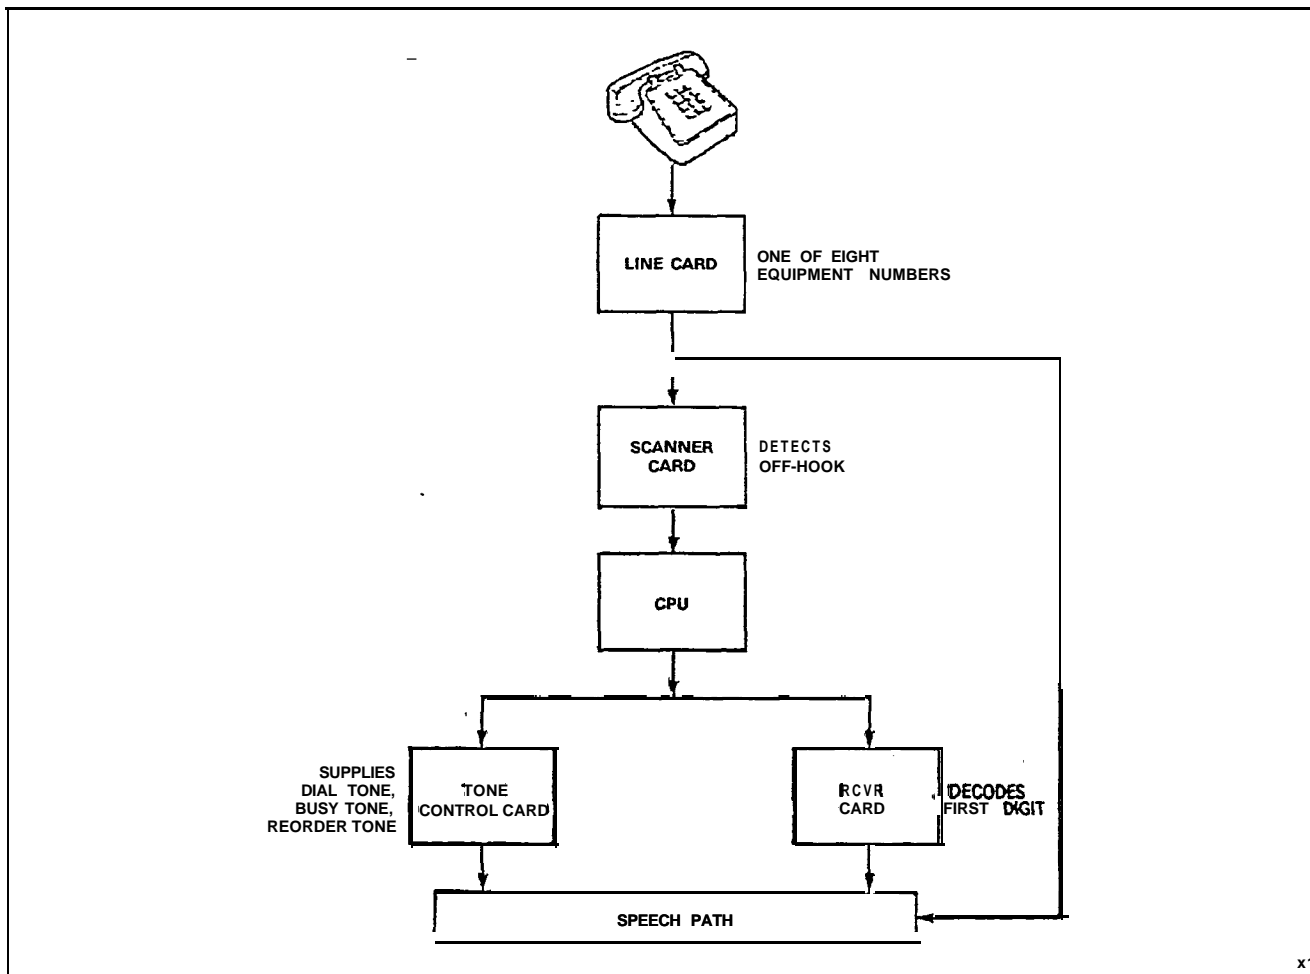

Figure 5-2 Select a Speech Path
5.01 Each extension is assigned to a specific equipment number on a specific Line card (Figure 5-1). When an extension goes off-hook, it will complete a circuit and draw loop current. This loop current will cause the LED (on the Line card) associated with that equipment number to light. At this time there are up to 31 speech paths available for assignment to the off-hook extension. Each Line card has an 8 x 32 switching matrix, providing access to 31 speech paths and one Music-on-Hold (MOH) path (Figure 5-1). The Scanner card will detect the off-hook condition on the Line card and report the equipment number to the Central Processor Unit (CPU). The CPU (through its Random Access Memory or RAM) will find a free speech path and test it, using circuits on the Tone Control card. After the speech path is tested, the CPU connects it to the line circuit and a free receiver is located. The selected receiver, and dial tone from the Tone Control card, are then connected to the free speech path (Figure 5-2).